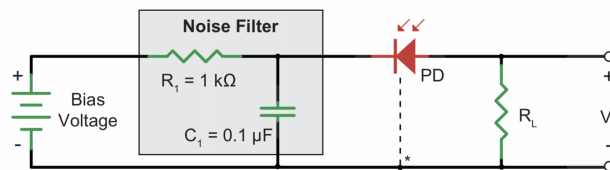

Figure 1: Photodiode circuit
- The circuit for the photodiode is shown in figure 1 - use a bias voltage of 5V and a resistance $R_L = 10\text{k}\Omega$. The output of the circuit V_o will be connected to an analog input channel on the NI 9215 and used as a trigger.